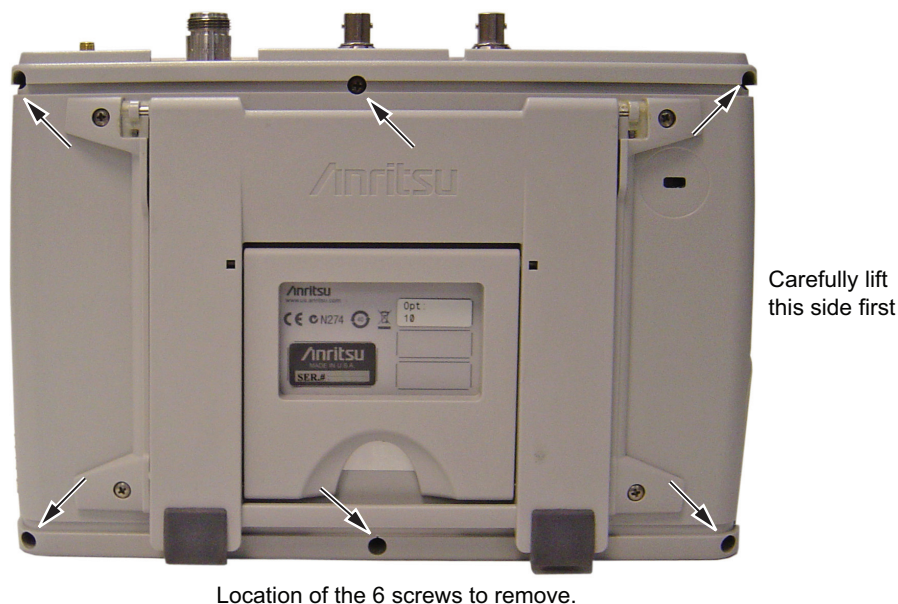

Figure 7-2. Remove the Four Screws
4. Use a Phillips screwdriver to remove the six screws securing the two halves of the Cell Master case together (Figure 7-2).